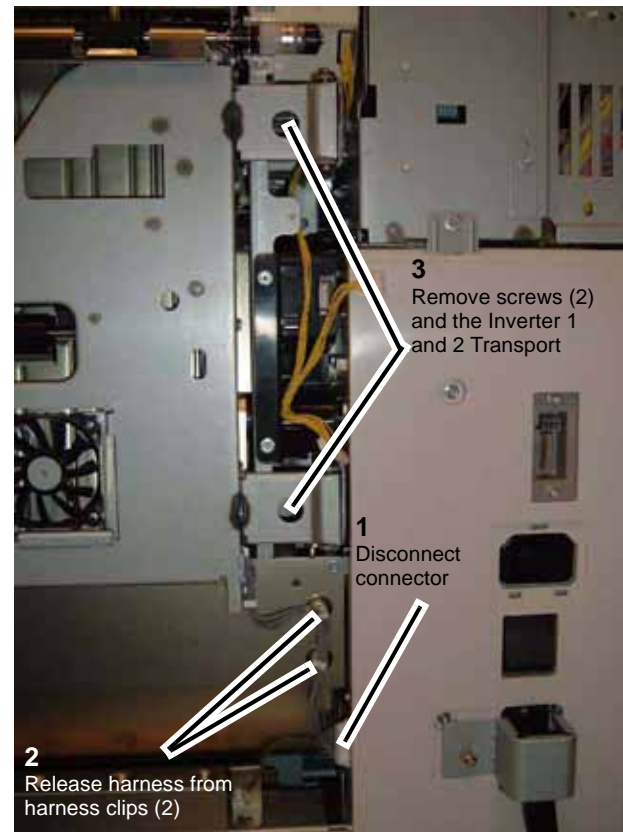

Figure 5 Removing the Inverter
10. Remove the Inverter (Figure 5).